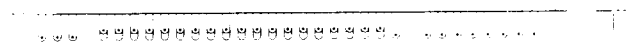

Fig. 10—927C Connector
- (c) **927C:** The 927C connector (Fig. 10) is equipped with 62 spring terminals that are arranged for soldered connections. This connector is used in the 804M data auxiliary sets.